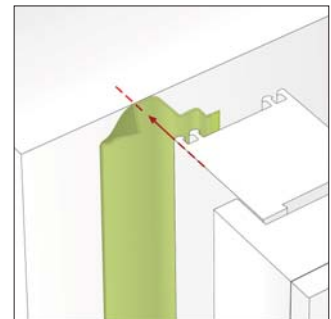

Fig. 2
- Bonding in 'W' format (Fig. 2):- peel off the liner from the narrow self-adhesive and bond to the outer edge of the window frame in a suitable location (to flat profile rather than across profile 'legs'). Must be applied to the window prior to installation.